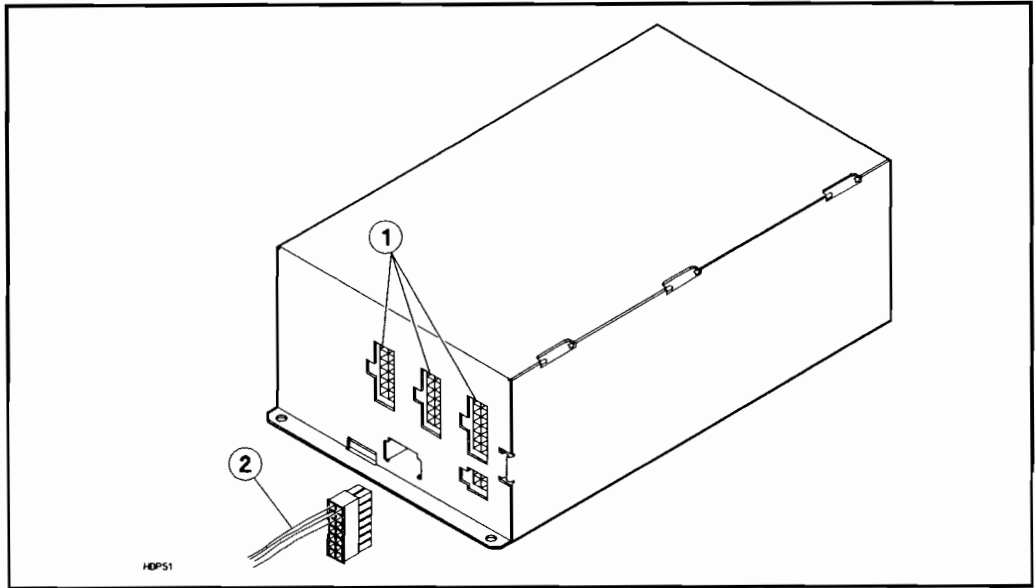

Figure 2-8. Connecting the DC Power Cable
1. Connect the power cable (2) to the power supply (1) (see Figure 2-8).